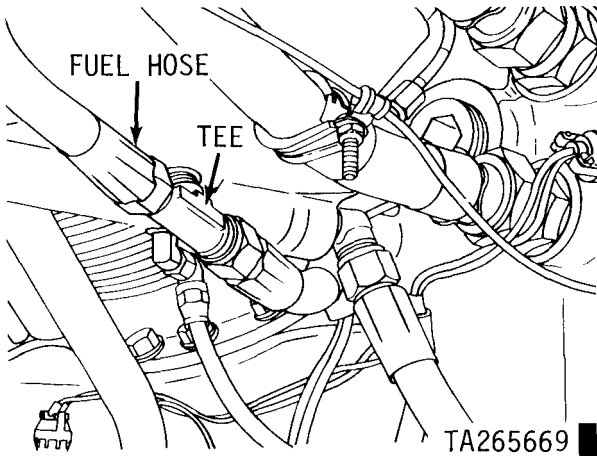

Figure 3-5.1. Removing or installing smoke generating system fuel hose.
a. Disconnect fuel hose from fuel/water separator tee (fig. 3-5.1). Remove fuel hose (1, fig. 3-5 .2). Disconnect fuel outlet tube (2). Remove